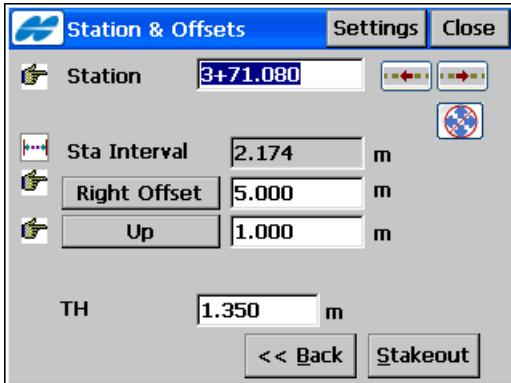

Figure 10-14. Station & Offsets
- **Next** – opens the *Station & Offsets* screen (Figure 10-14 on page 10-14) (see “Station & Offsets” on page 10-14).
The **Station & Offsets** screen (Figure 10-14) contains the settings for the stakeout stations with offsets from the line.